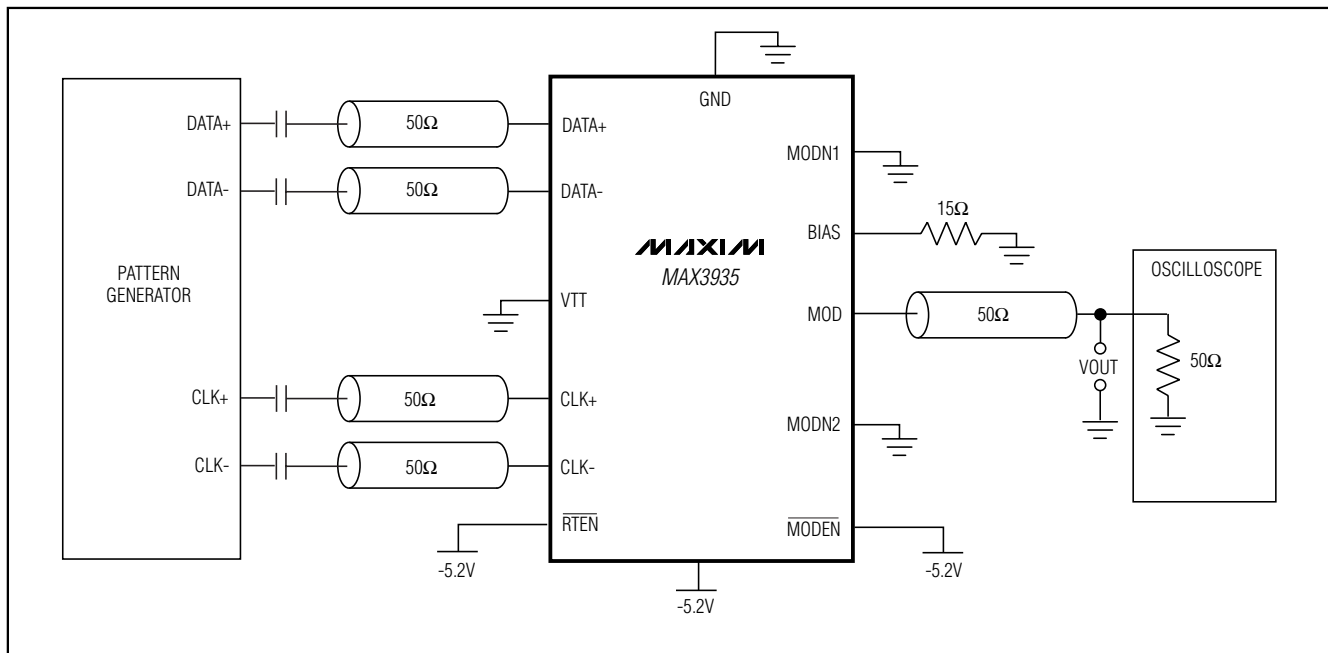

Figure 1. AC Characterization Circuit
**Note 4:** AC characterization performed using the circuit in Figure 1.